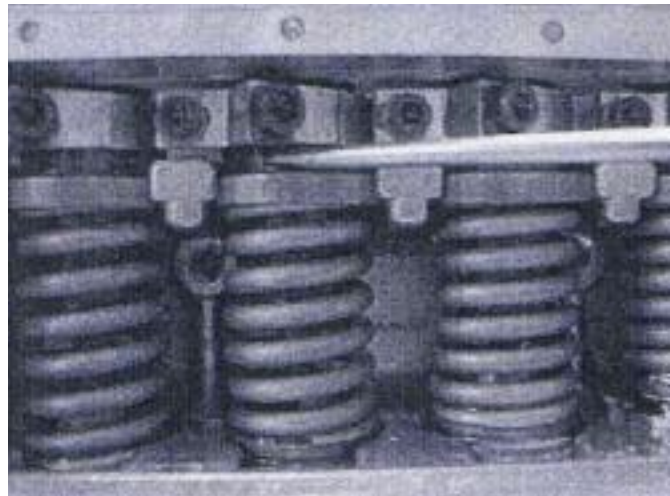

FIG. 2
3. See Figure 2. Using a small screwdriver or Allen wrench to engage one of the slots in the control sleeve, rotate the sleeve counterclockwise for decreasing delivery or clockwise for increasing delivery.